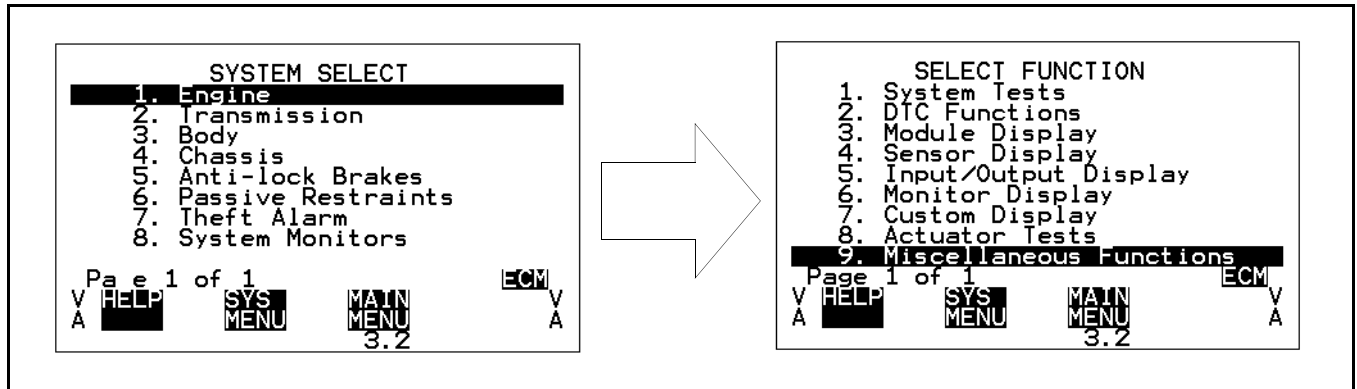

Figure 22 Selecting Engine and Miscellaneous Functions
1. Choose Engine in the System Select screen and Miscellaneous Functions in the Select Function screen (Figure 22).